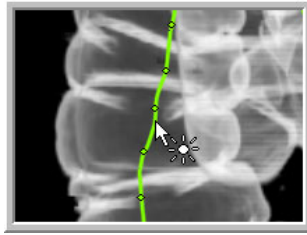

Figure 12-14 Creating New Control Points
3. Create a new control point by clicking on the flight path where you would like to add it. The mouse cursor changes to indicate a new control point is being added. (Figure 12-14)